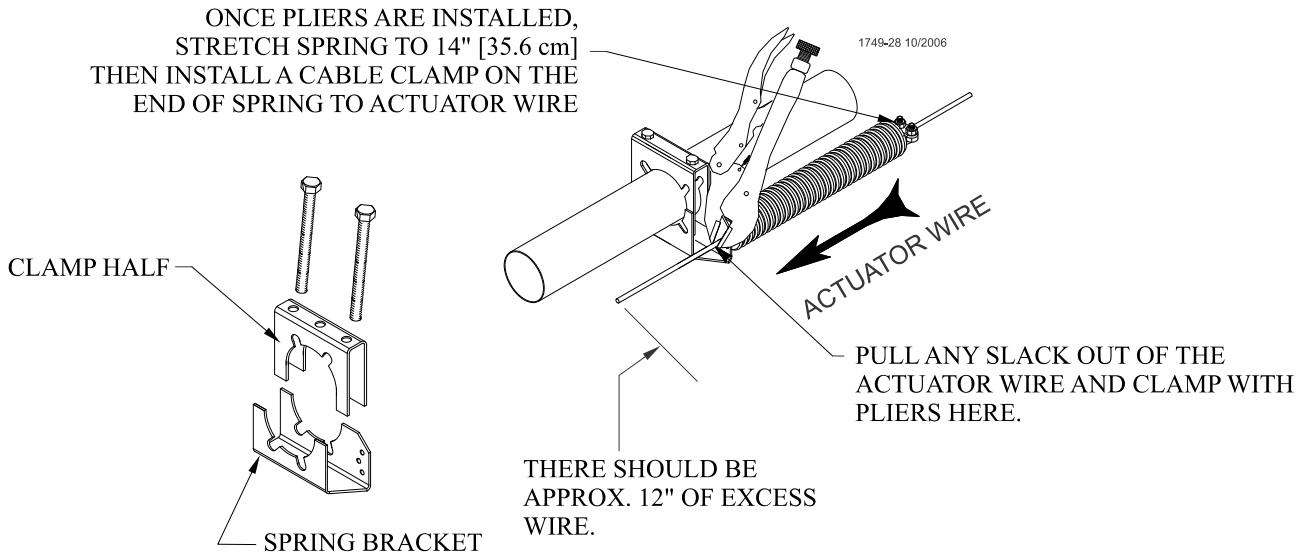

Figure 58. Terminal Bracket
6. Clamp with pliers once slack has been removed from the actuator wire, see figure 58.
9. Clamp the springs to the actuator wire using an 1/8 inch cable clamp, see figure 58. Repeat procedure for the remaining actuator wire installation,